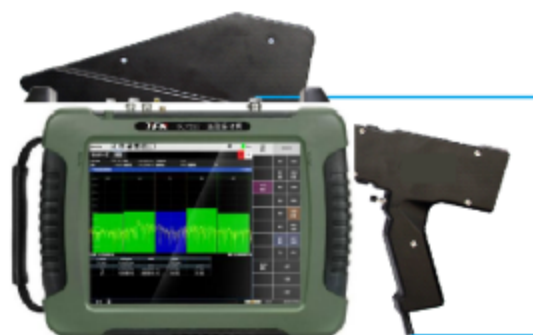

Figure 7.21 Schematic diagram of connecting the handheld DF antenna and the RMT series spectrometer
- Step 1. Connect the handheld DF antenna to the RMT series spectrometer RF input port for the test connection as shown in Figure 7.21: